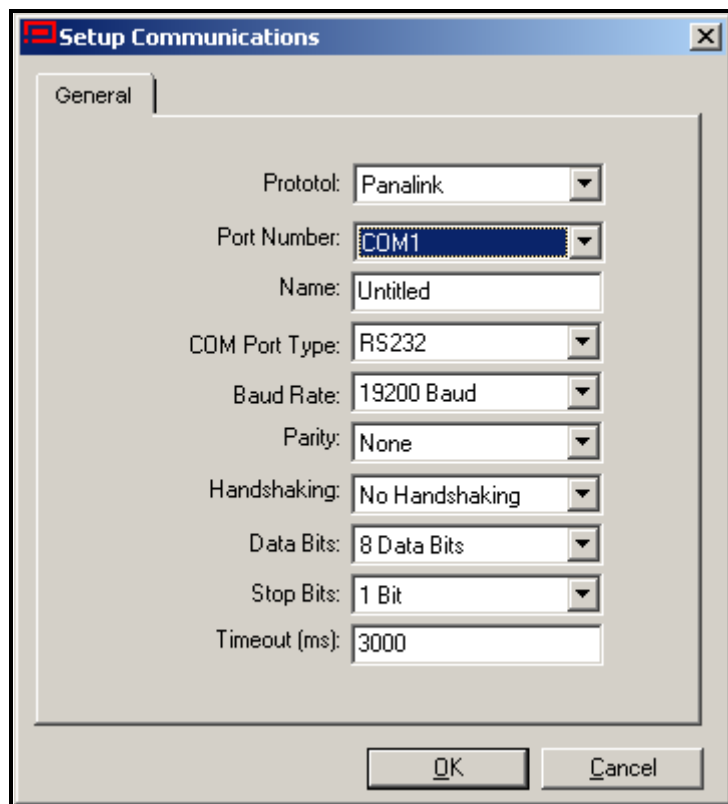

Figure 2: Setup Communications Screen
- Click on the “*Communications Port*” option to select it. The *Setup Communications* screen appears similar to Figure 2 below.